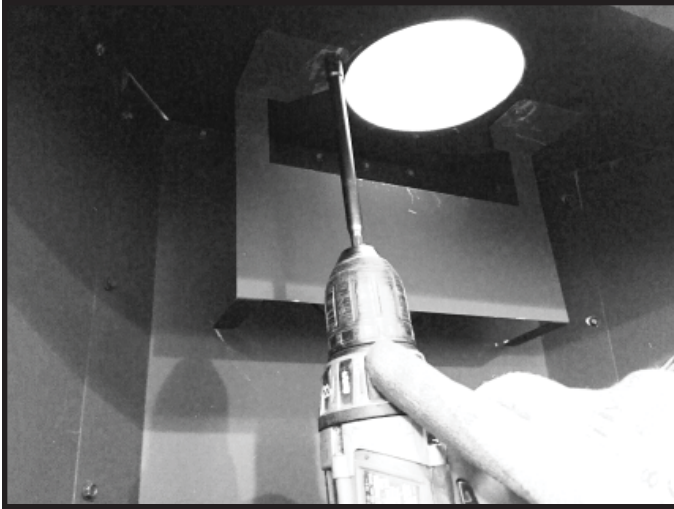

Figure 4.14 Remove Flue Visor
- Remove screws holding flue visor to firebox top. See Figure 4.14